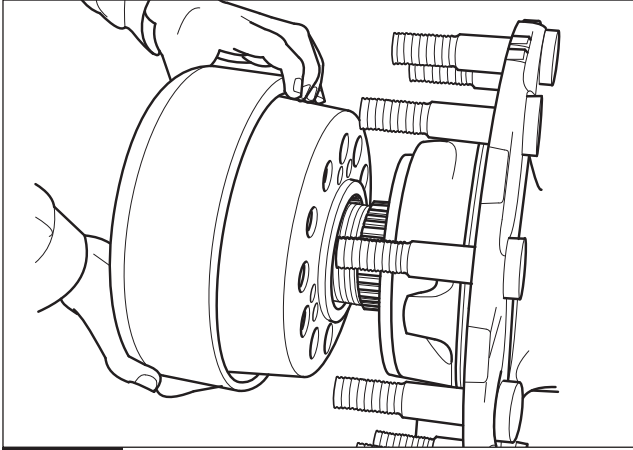

Fig. 3.24
25. Locate the ring gear carrier into position. Assembly ring gear group. - Fig. 3.24